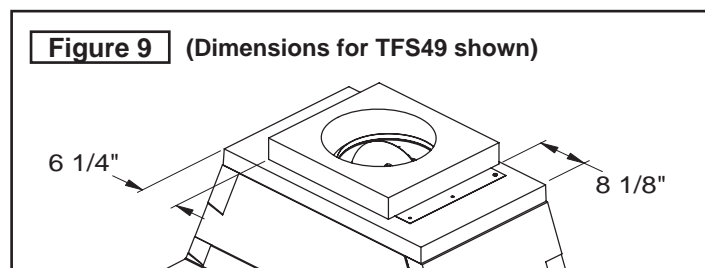

Figure 9 (Dimensions for TFS49 shown)
1. When starting offsets directly from the top of the fireplace, position the offset section completely to one side of the Anchor / Damper Plate collar. Figure 9 and 10 show the offset section positioned for a left side offset. For right side offsets reverse position. Note that the edge-to-edge distances vary by firebox size.